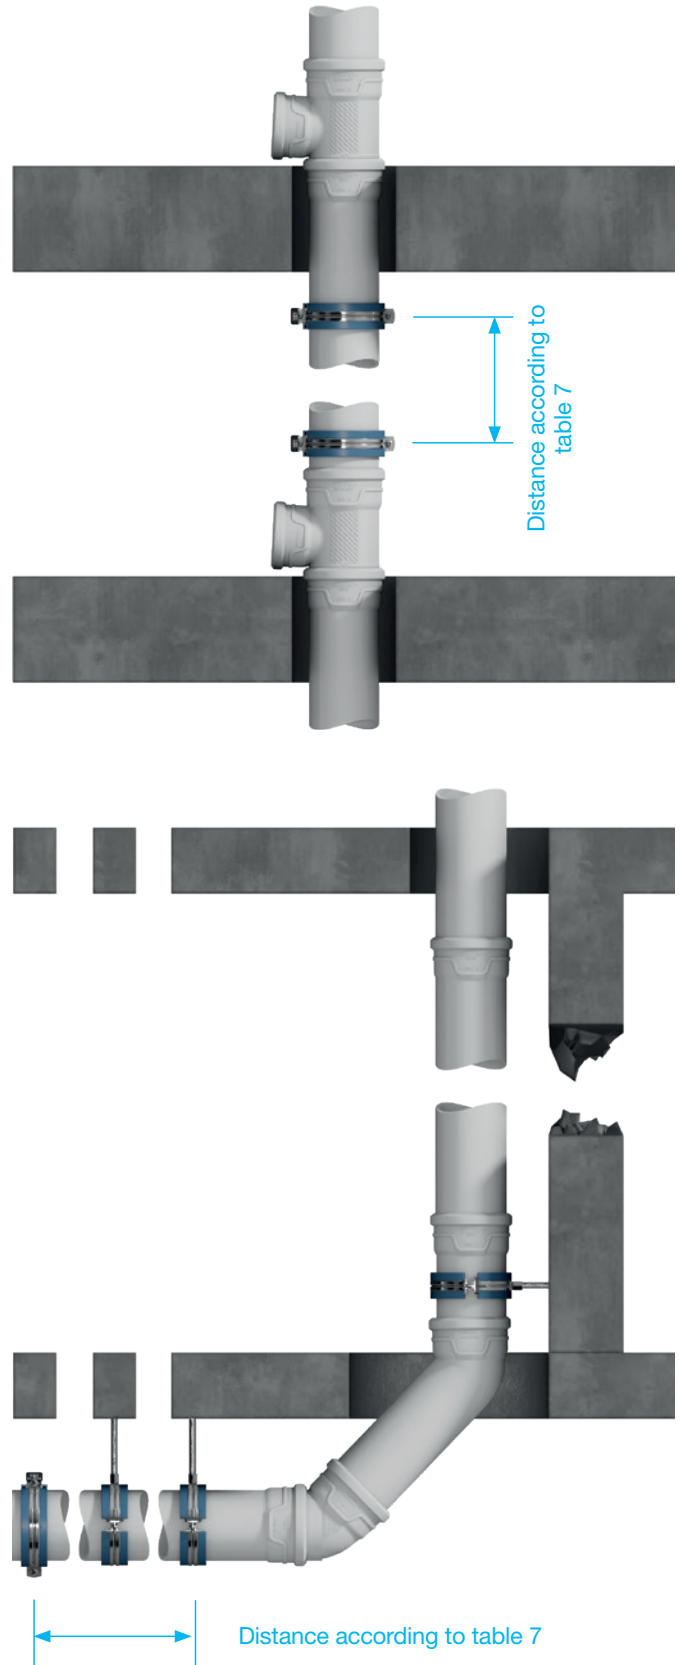

Figure. 26: Example horizontal and vertical installation.
- ⦿ In multiple storey buildings (from 3 storeys and more) the stack pipes of 110mm must be secured by additional fixing (stack pipe support) to prevent sliding. In this case we advise using the Wavin AS+ socketed short length with a fixed bracket (see figure 26)